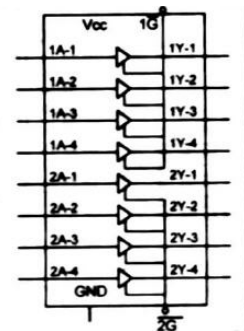

Figure 11-4. 74LS244 Octal Buffer
- For the simple input ports we use the 74LS244 chip. See Figure 11-4.